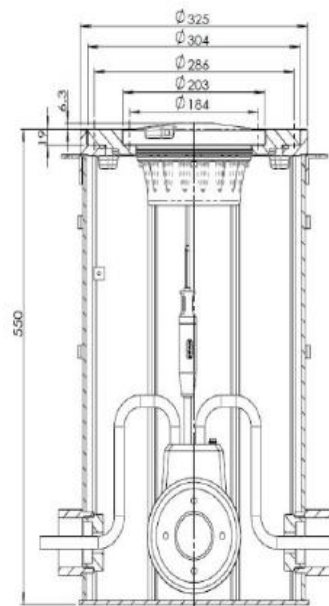

Figure 3-3
- Mounted on the 12 inches deep base with the 12/8 inches adapter ring (Figure 3-3).